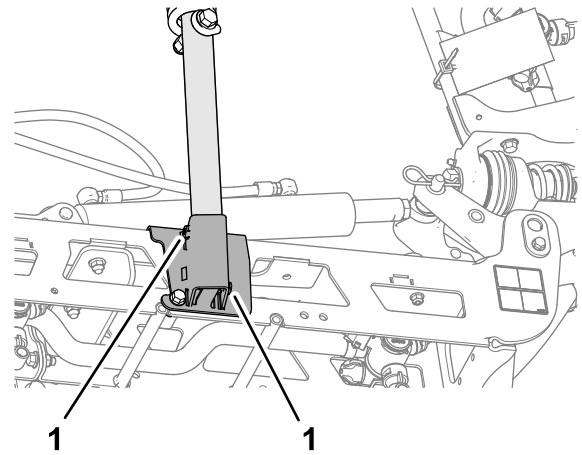

Figure 107
3. Loosen the 2 setscrews that secure the lower cradle tube (Figure 107).